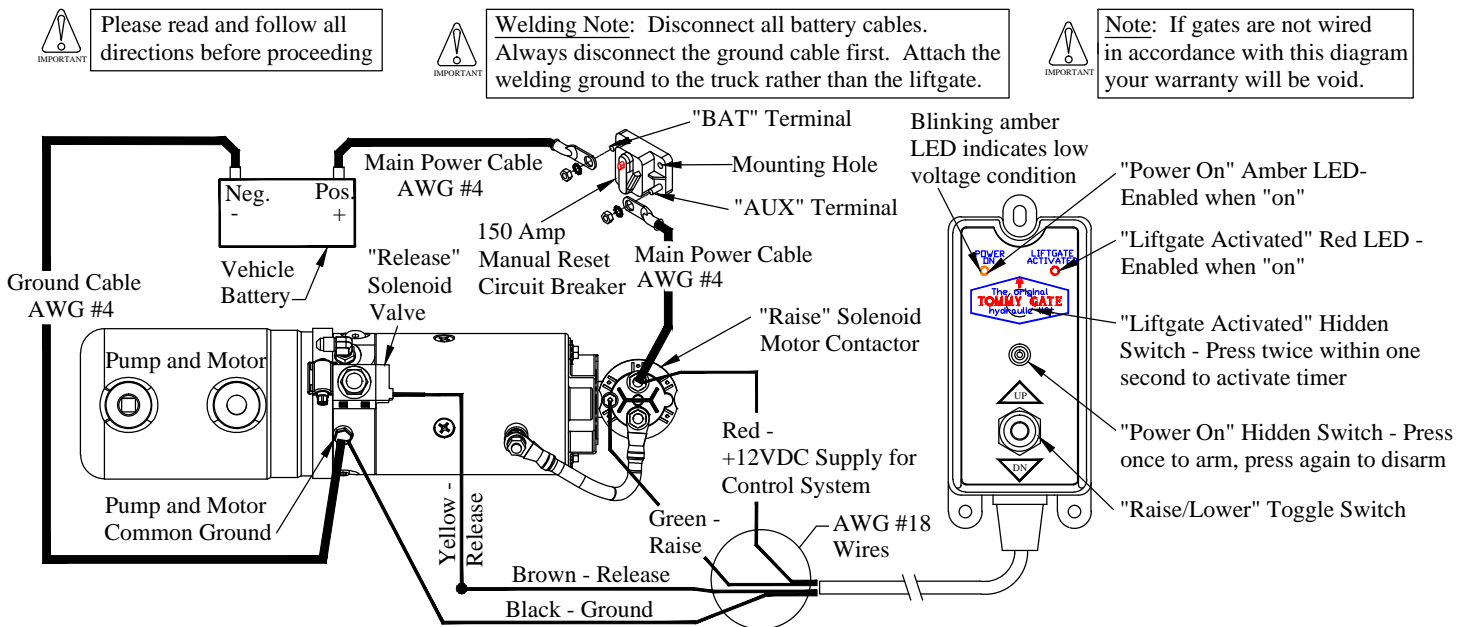

Figure 14: Wiring diagram.
12. **Connect** the circuit breaker and battery as outlined in the *Tommy Gate Recommended Electrical Wiring Guidelines* and wiring diagram (Figure 14).